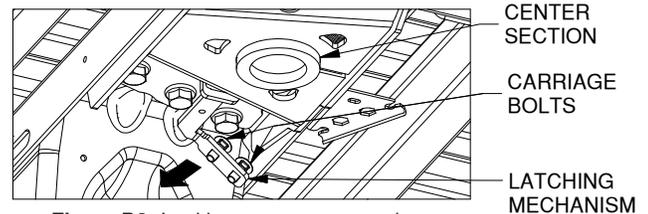

Figure D2: Looking up at center section.
- 2. Install bolts.** Retract the latching mechanism by pulling on the tab with the square holes and pushing it toward the cab. From the top down, insert a 3/8" carriage bolt in each of the square holes in the latching mechanism, see Figure D2.